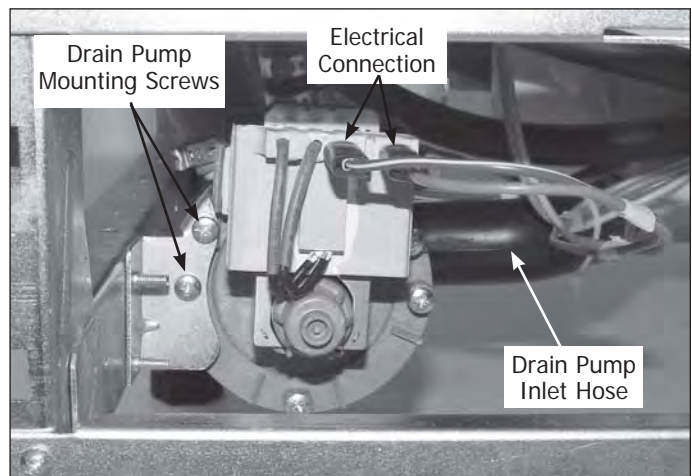

Figure 4-27. View From Lower Rear Left Corner
7. Disconnect wires from the drain pump. Terminals have locks, press down on lock to remove terminal. (See Figure 4-27)
8. Extract the two screws securing the drain pump to the mounting bracket. (See Figure 4-27)